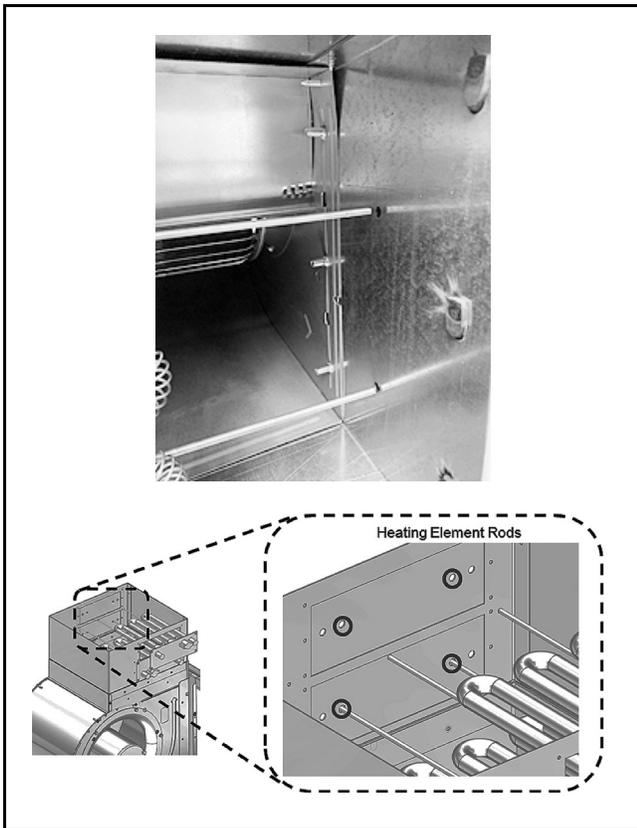

Fig. 9 Electric Heat Element Installed
- Slide in the heating element rods into the holes in the rear of the heater collar. (See Fig. 9.)